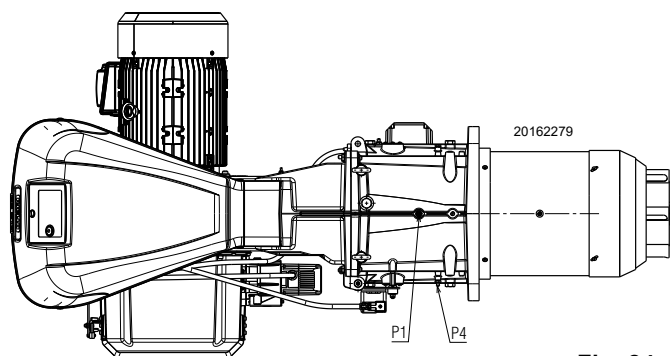

Fig. 24
Gas pressure measured at the test point P1) (Fig. 24), with:
- subtract the combustion chamber pressure from the gas pressure measured at test point P1) (Fig. 24).
Gas pressure at test point P1)(Fig. 24) = 37.5 mbar
To calculate the required gas pressure at test point P1) (Fig. 24), set the MAX output required from the burner operation:
- read, on the right (column 1), the pressure at the test point P1)(Fig. 24).
Pressure required at test point P1)(Fig. 24).